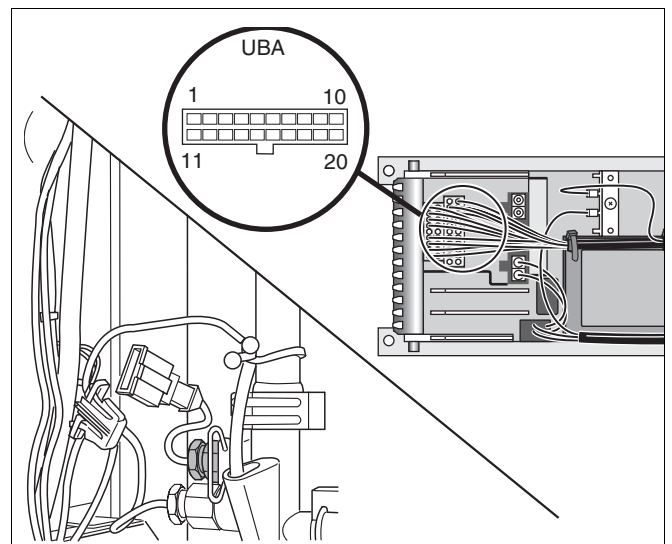

Fig. 53 Buderus 600 - 11R / 19R / 24R: checking the flow sensor connection lead
- Use a continuity tester to check the cable between the plug-in connection and the 20-pin plug in the UBA. The test should be carried out on connections 05-20 and 18-20 (fig. 53).